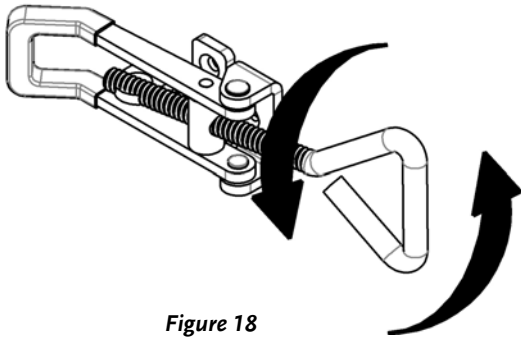

Figure 18
17. Close the Tailgates and adjust the Latches, by threading the Latching Arm inwards or outwards to adjust the length of the Latching Arm (**Figure 18**).